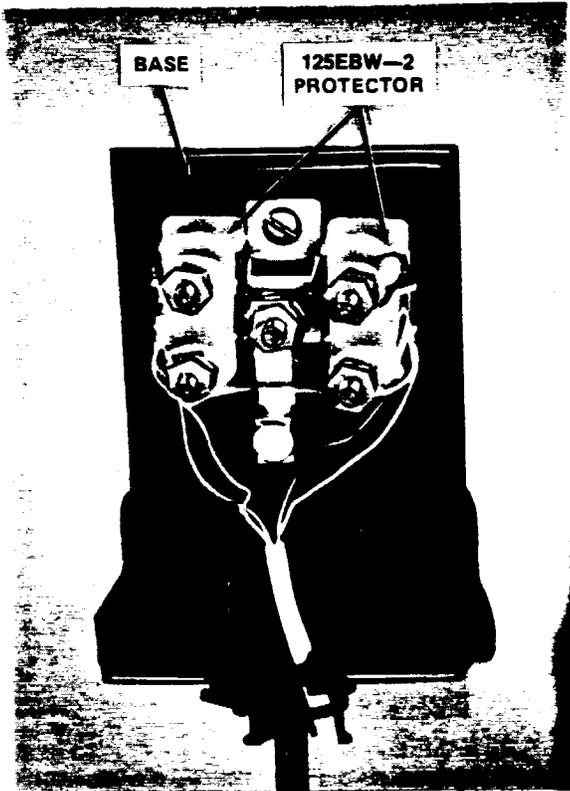

Figure 15—125EBW-2 Protector Installed in B2 Customer Service Closure
3.34 The B2 customer service closure will accommodate a UL listed 125EBW-, 125EBR-, or 125EKW-type protector. A typical installation is shown in Figure 15.